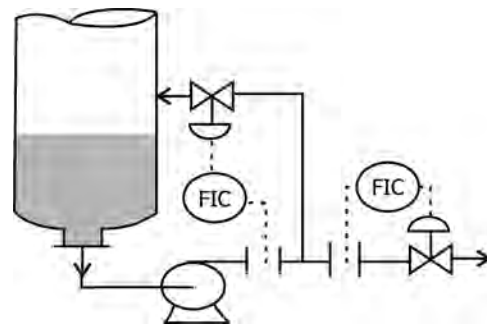

FIGURE 5.21 Minimum flow bypass.
- Use of minimum flow bypass working automatically (Figure 5.21). This also protects against accidental closure of check valve while pump is running.